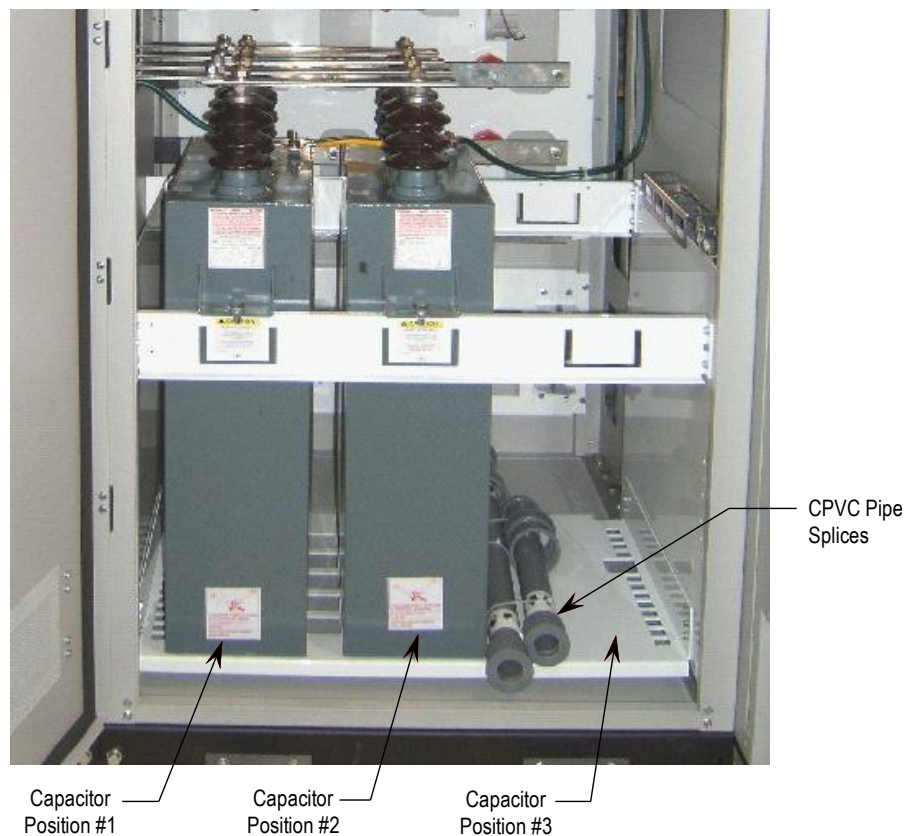

Figure 2.4 – Capacitor Cabinet
- Open doors of capacitor cabinet (Cabinet #5) next to DC Link Choke cabinet (Cabinet #6). Refer to Figure 2.4.